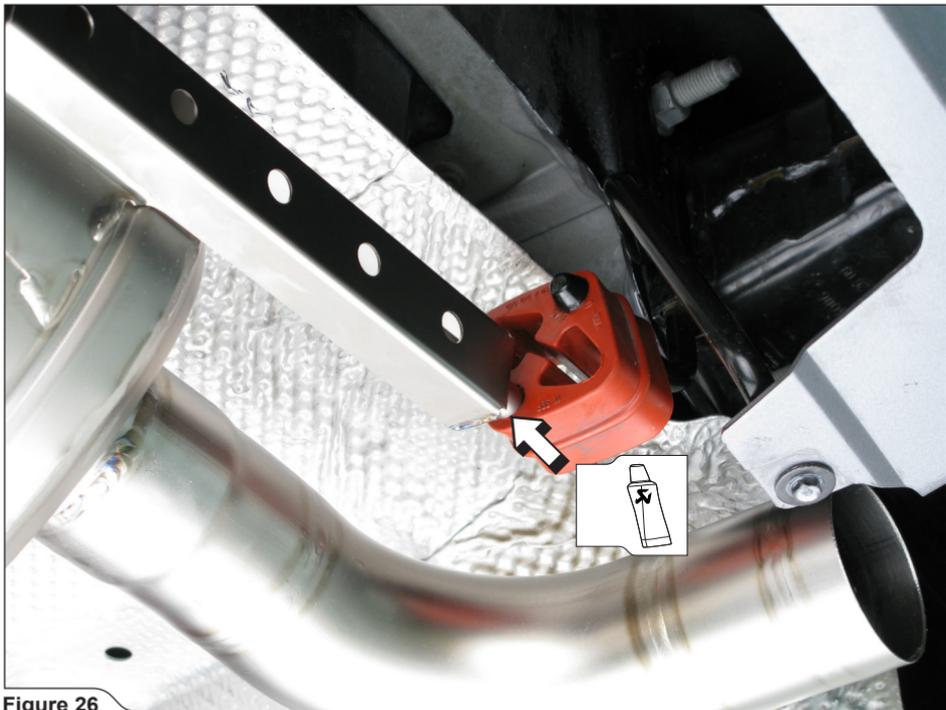

Figure 26
12. For Slip-On and Evolution: hang the muffler on stock rubber brackets as shown (Figure 26).